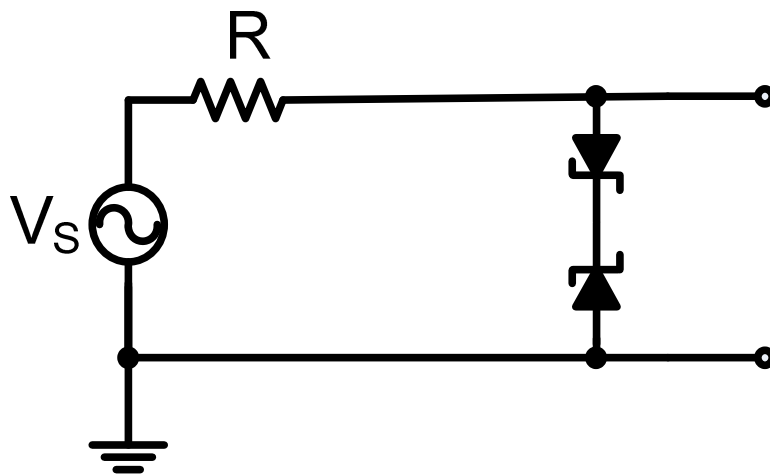

Fig. 4
Clipping circuits are used in applications where an input voltage should not be allowed to exceed a maximum value, and also in wave shaping of signal (function generation). A typical one is shown in Fig. 3. The same result can be obtained with the circuit of Fig. 4 using two back to back Zener diodes.
B) Determine the transfer characteristics of the circuits in Fig. 3 and Fig. 4. Draw the output waveforms assuming that the input is a sinusoid with sufficiently larger amplitude (larger than both reference voltages or the Zener voltages) amplitude.
b) Repeat the same steps for the circuit in Fig. 4. Note that the Zener breakdown voltage of 1N5234 is about -6.2 V and Zener diode's forward turn-on voltage is about 0.65 V. Your input voltage may change to 20 V peak to peak to provide sufficiently larger amplitude.